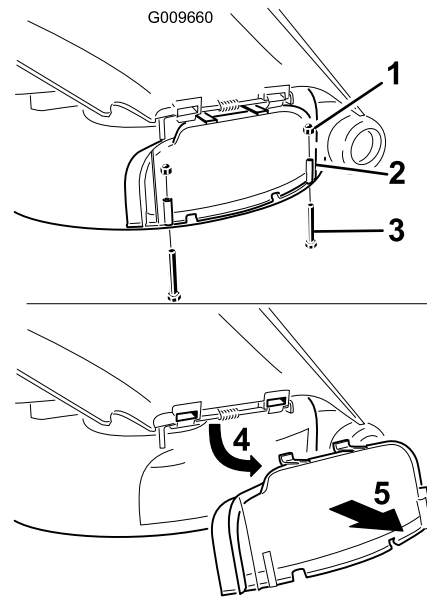

Figure 28
3. Remove the 2 bolts and nuts that secure the discharge cover to the mower (Figure 28).